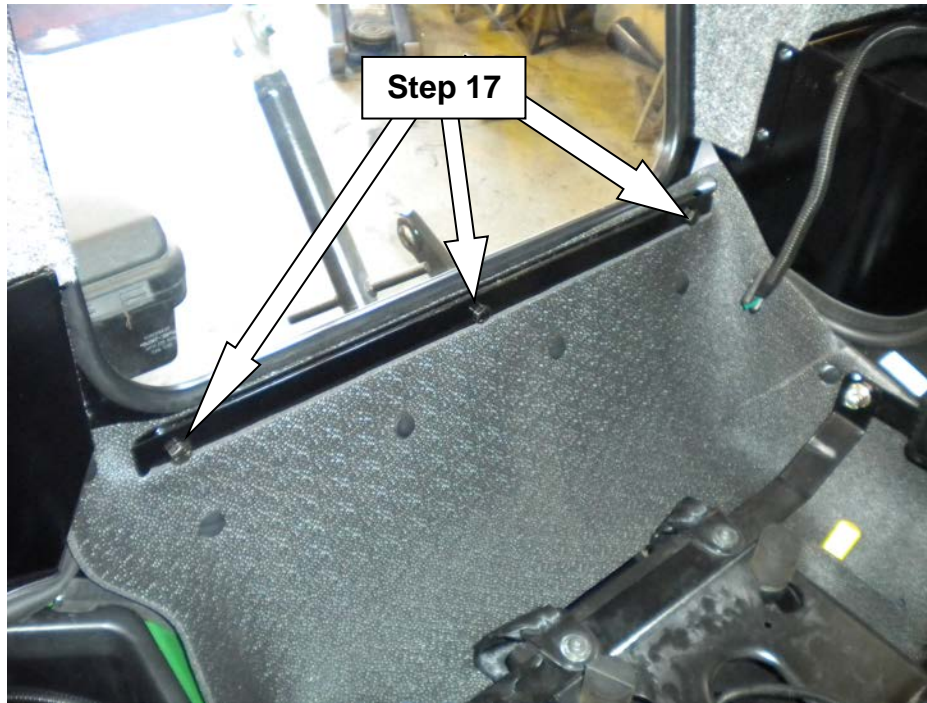

Figure 6
- (4) 1/2" center lock nut (H)
17. Align rear mount holes of cab with rear mount bracket holes. From inside of cab, place the under seat filler panel (Item 10) in front of the rear mount bracket, aligning the holes. Secure back of cab and under seat filler to rear mount bracket using (**Figure 6**);